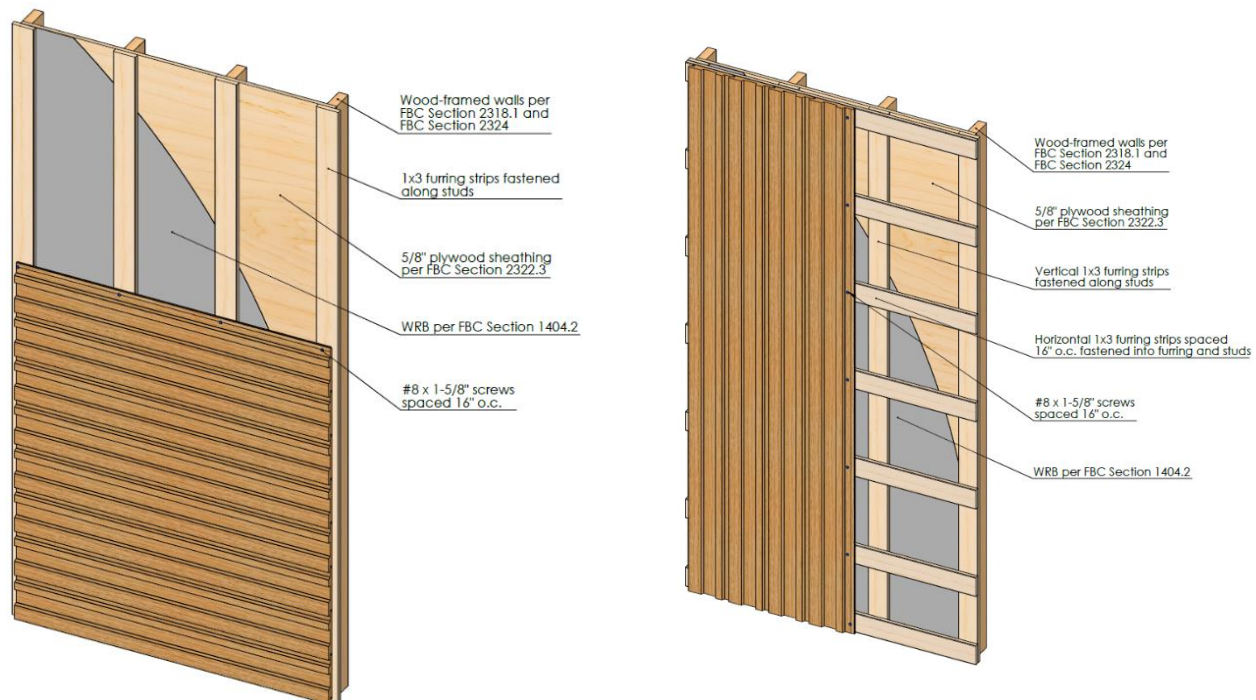

Figure 3. Millboard Composite Siding – Furred Connection
- See **Figure 3** as an example (wood studs shown).